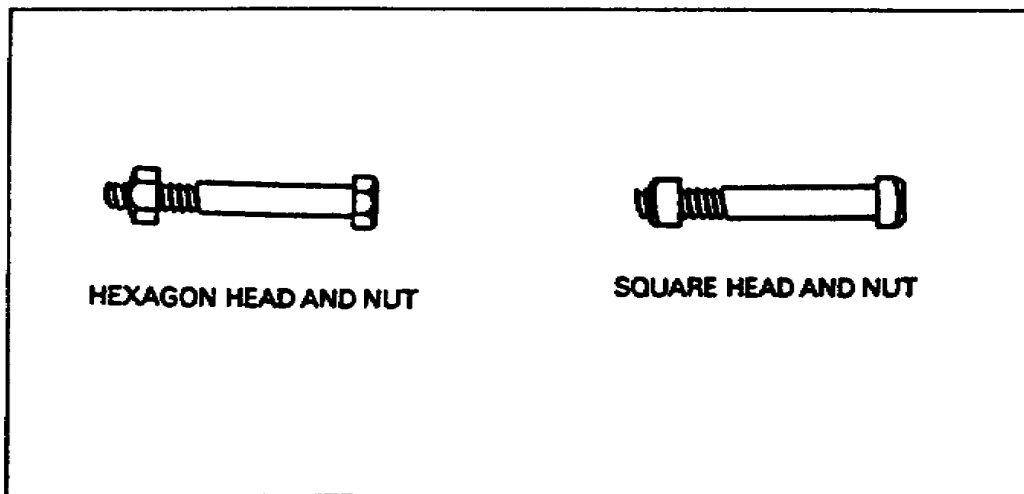

Figure 1-47. Machine bolts
b. Machine Bolts. Machine bolts (Figure 1-47) are used in woodwork. They usually have square heads and square nuts. A metal washer is usually used under both the head and the nut. These washers prevent the head from embedding into the wood and keep the nut from tearing the wood fibers as it is turned. Two wrenches are required when tightening machine bolts.